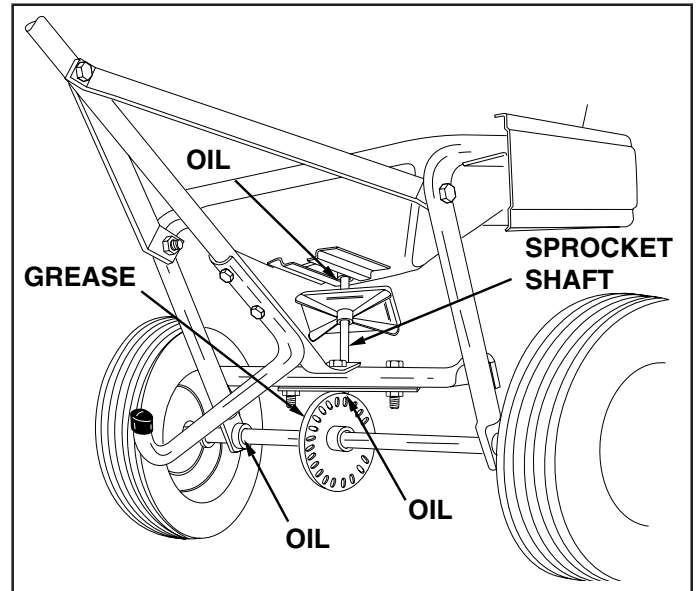

FIGURE 17
2. Oil nylon bushings on sprocket shaft. See figure 17.
3. Oil axle/shaft bushing on axle as shown in figure 17.